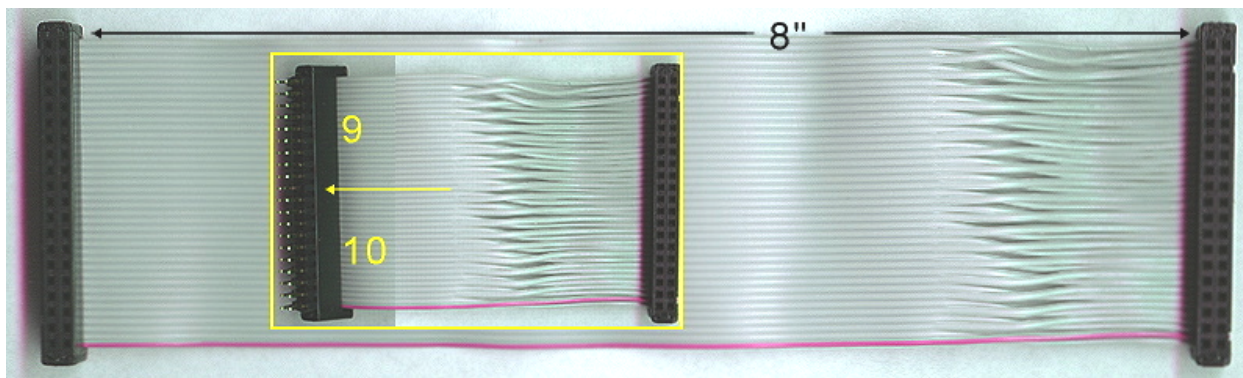

Figure 3. The special IDE-to-IDE adapter required for Option (A).
- (2) The IDE-to-IDE adapter is shown in Figure 3. The side that connects to the Ultra Digidrive must have its wires twisted as shown. This means that wire No 1 (with the stripe) must become wire No 2, wire No 2 must become No 1, wire No 3 must become No 4, wire No 4 must become No 3, etc. This goes for all 40 of them. This side of the adapter features a female 40-pin connector. The other side that connects to the SCSI-to-IDE adapter must be a male 40-pin connector. Since I did not have one available I used 40 headers in a dual row format as you can see in the insert of Figure 3.